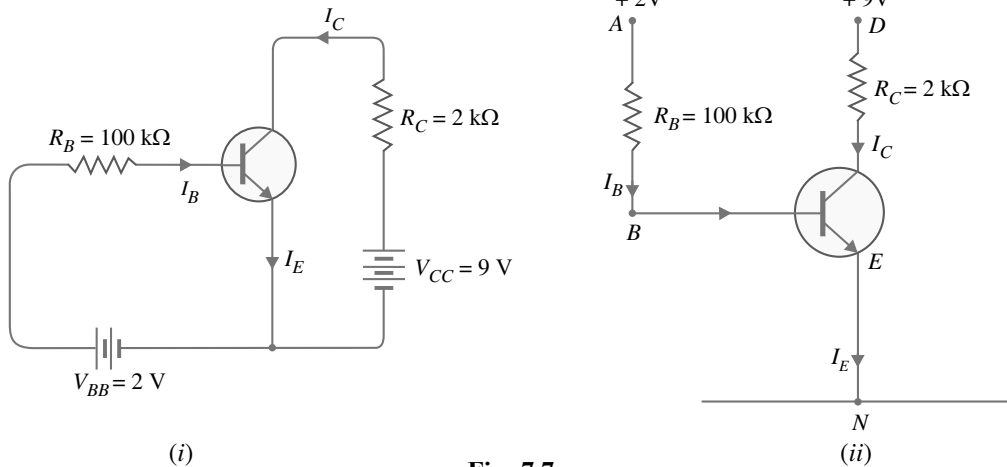

Fig. 7.7
**Example 7.4.** Fig. 7.7 (i) shows biasing with base resistor method. (i) Determine the collector current  $I_C$  and collector-emitter voltage  $V_{CE}$ . Neglect small base-emitter voltage. Given that  $\beta = 50$ .
In the circuit shown in Fig. 7.7 (i), biasing is provided by a battery  $V_{BB}$  ( $= 2\text{ V}$ ) in the base circuit which is separate from the battery  $V_{CC}$  ( $= 9\text{ V}$ ) used in the output circuit. The same circuit is shown in a simplified way in Fig. 7.7 (ii). Here, we need show only the supply voltages,  $+ 2\text{ V}$  and  $+ 9\text{ V}$ . It may be noted that negative terminals of the power supplies are grounded to get a complete path of current.
(i) Referring to Fig. 7.7 (ii) and applying Kirchhoff's voltage law to the circuit  $ABEN$ , we get,